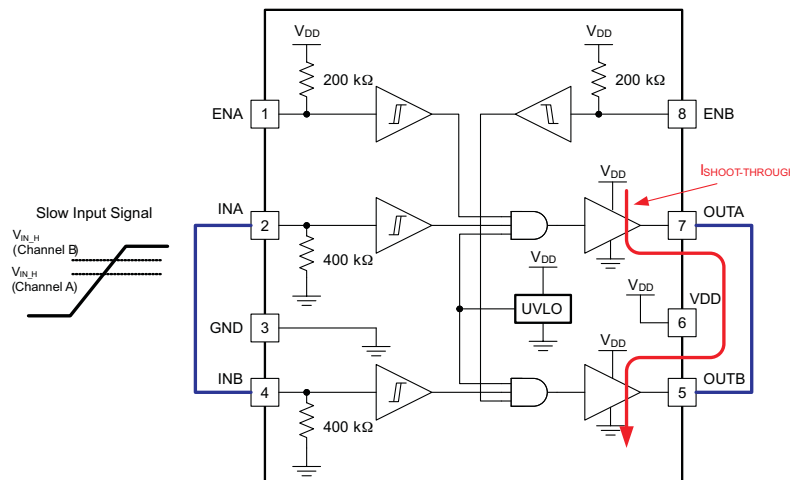

Figure 33. Slow Input Signal May Cause Shoot-Through Between Channels During Paralleling (Recommended dV/dt Is 20 V/μs Or Higher)
Caution must be exercised when directly connecting OUTA and OUTB pins together because there is the possibility that any delay between the two channels during turnon or turnoff may result in shoot-through current conduction as shown in Figure 33. While the two channels are inherently very well matched (4-ns Max propagation delay), note that there may be differences in the input threshold voltage level between the two channels which causes the delay between the two outputs especially when slow dV/dt input signals are employed. The following guidelines are recommended whenever the two driver channels are paralleled using direct connections between OUTA and OUTB along with INA and INB:
- Changed Slow Input Signal Figure 33. 21